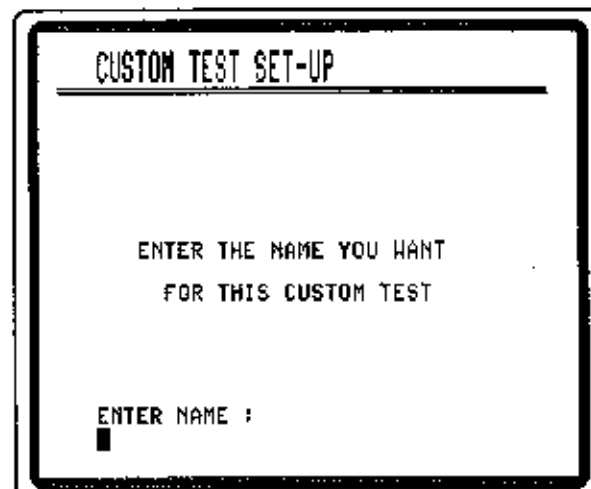

Figure 149
4. Enter the name for the new custom test, as prompted (see Figure 149). Press [ENTER] when finished.